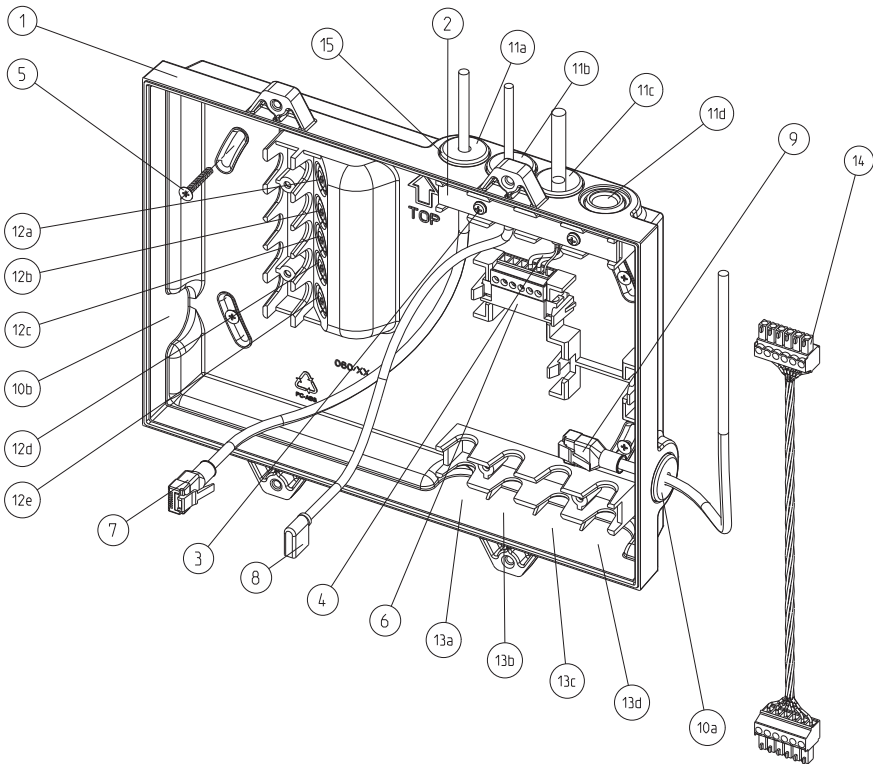

Fig. 1: Inside View of Deep Back Cover Mounting Kit - To be mounted with compact network repeater
- 2 Use a knife or a sharp cutting tool to cut-out cable holes (10a to 10b or 11a to 11d or 12a to 12d) as required around the outline on the deep back cover (1), depending on the direction of the cables going into or out of the deep back cover. Refer to Fig. 1.
- 9 Fit the cable holder (2) to cables (11a to 11d) and tighten it with the screws (3). Refer to Fig. 1.
- 10 Plug one end of the patch cable (14) into the compact network repeater front cover rear PCB and plug the other end into the DC power supply terminal block (6) inside the deep back cover.